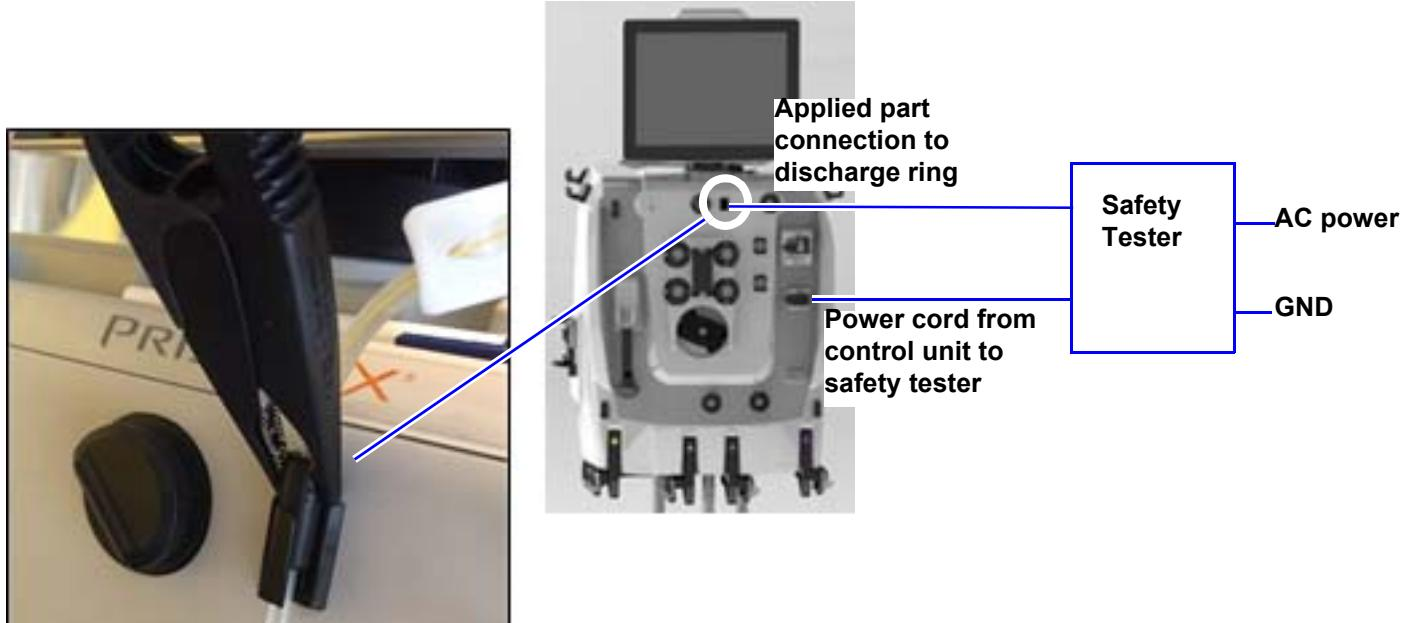

Figure 4-23 PLT Configuration
- 8.3 Ensure that the ESI test point tubing is in place, then connect the safety tester probe to the test point as shown in Figure 4-23. For normal condition (NC) tests, record either the normal or reverse polarity AC value, whichever is greater. See Table 4-13.